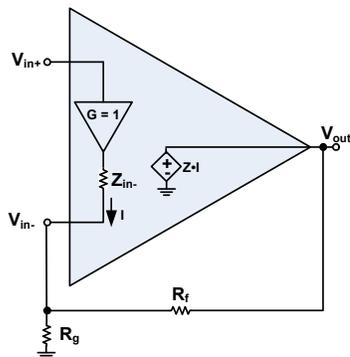

FIGURE 1. THE BLOCK DIAGRAM OF A CURRENT FEEDBACK AMPLIFIER
Figure 1 shows the conceptual approach of the current feedback amplifier. CFAs have a unity gain buffer to force the inverting input (Vin-) to follow the non-inverting input (Vin+). This topology is very different from the high impedance inputs of the voltage-feedback amplifier. In the CFA case, the inverting input node shows the low input impedance (Zin-) from the output of the buffer. The error signal is the current (I) flowing into or out of the inverting node. The error current is converted by a large transimpedance, Z, to the output voltage. Rf is used to control the feedback current. This is another major deviation from the voltage-feedback topology. In VFAs, the feedback network (Rf and Rg) primarily set the voltage gain. In CFAs, the feedback network does set the gain, but the value of Rf also controls the bandwidth of the amplifier.